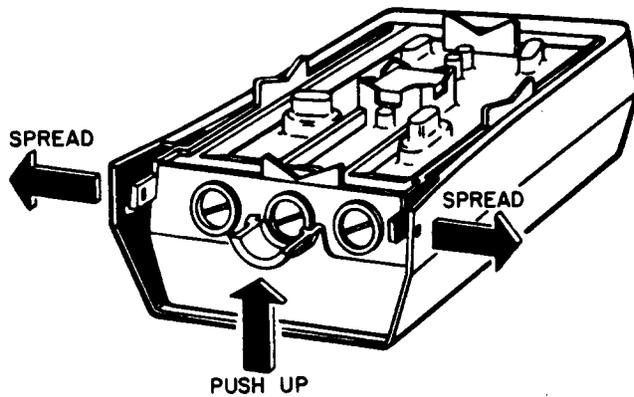

Fig. 6—Cover Removed
3.01 The closure cover is removed by spreading the lower rear portions of the cover and lifting up and out (Fig. 6).